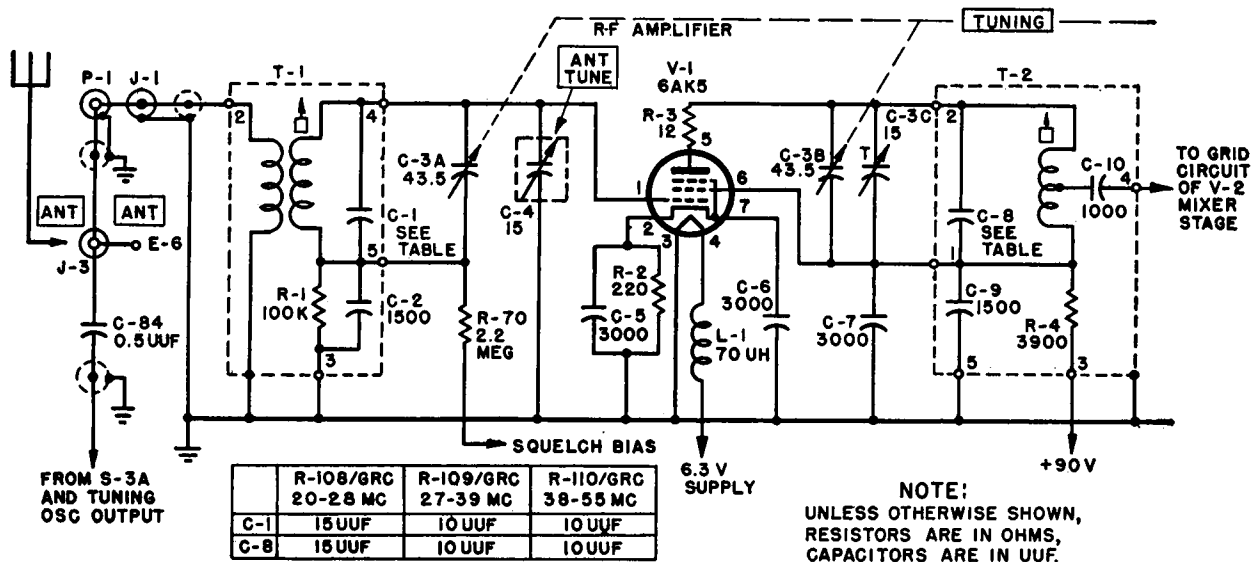

Figure 11. Antenna and r-f amplifier circuits, functional diagram.
18. Antenna Circuit (fig. 11)
19. R-f Amplifier Stage V-1 (fig. 11)